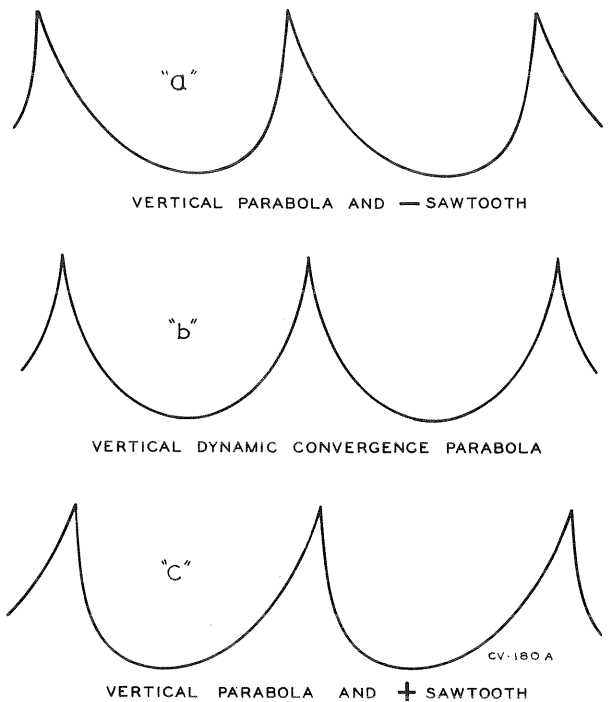

Figure 40—Vertical Dynamic Convergence Waveforms
**VERTICAL**—Connect the oscilloscope to the output plate of the vertical convergence amplifier, pin 1 of V119. Adjust the vertical convergence amplitude control 1R248A and the vertical convergence shape control 1R248B for the wave shape shown in figure 40(b).
The amplitude control varies the amplitude of the parabola from 0 to 200 volts peak to peak. The shape control varies the amount of negative or positive sawtooth to the parabola. Make the final adjustment to conform to the waveform in figure 40(b).